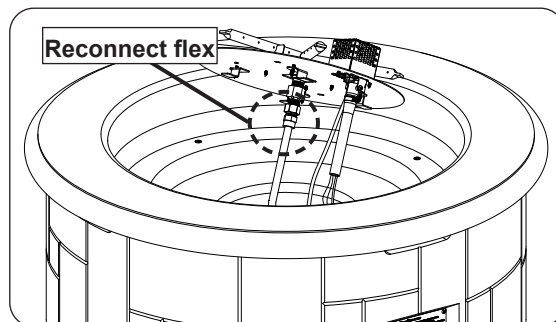

Fig. 27-2 Reconnect flex connector
1. Reconnect flex line coming from the valve to the burner assembly (see Fig. 27-2).